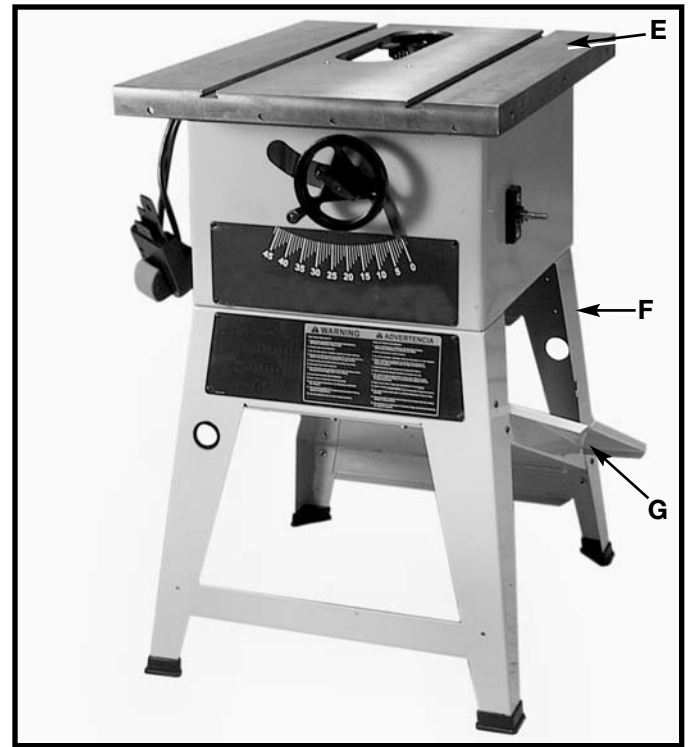

Fig. 8
4. Push down on the top of the saw (E) Fig. 8 until the stand legs (F) are positioned firmly on the floor surface. **Securely tighten all saw and stand mounting hardware.** Note that panel (G) is not only a support for a stand, but also serves as a dust chute.
5. Fig. 8, illustrates the saw assembled to the stand.